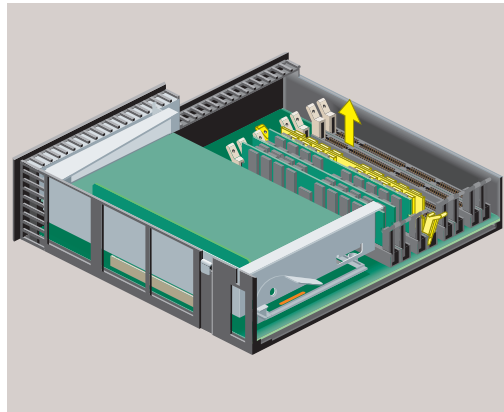

Figure 2-12 Removing the Memory Module
3. Remove the DIMM by pushing down the latches on both sides to release it. Pick up the DIMM and set it aside (Figure 2-12).